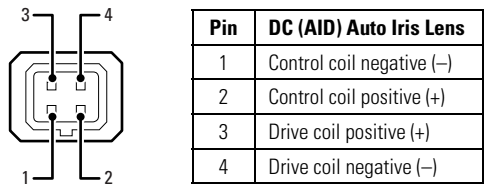

Figure 2. Lens Pin Connections
- Connect the auto iris lens to the 4-pin connector located on the side of the camera. Refer to Figure 2 for the pin connections for the auto iris lens connector.